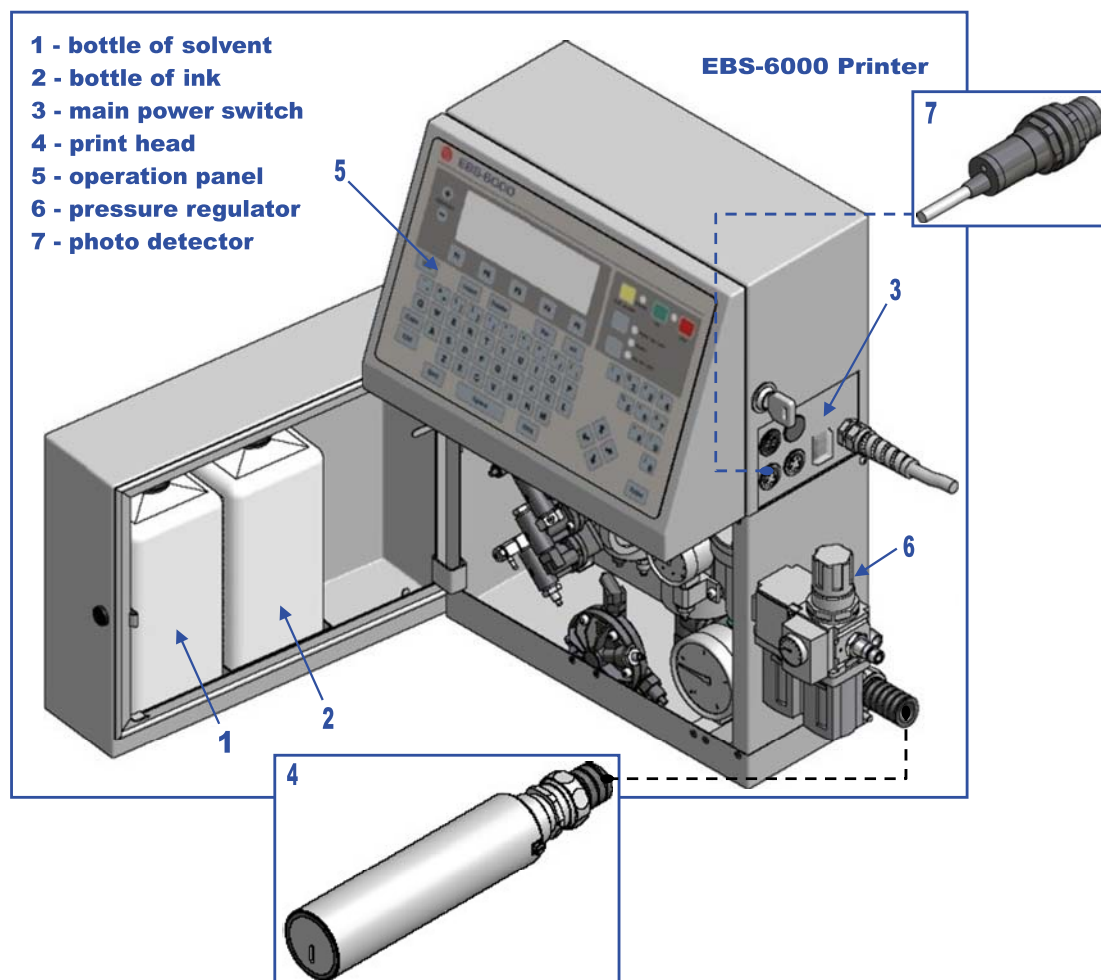

Fig. 2.1
Major components of the **EBS-6000** single-head printer are shown in *Fig. 2.1*.
Various versions of the pressure regulator (see item **6** in *Fig. 2.1*) are available and your regulator may differ from that shown in the figure.
The nominal pressure should be adjusted with a pressure regulator (see item 6 in Fig. 2.1) to ensure the proper operation of the printer.
The main (bi-stable) power switch, which separates electrically two power wires from the mains; it is located on the right-hand side of the unit next to the mains cord (see item 3 in Fig. 2.1). After the main power switch has been turned on, the printer triggers to the watch mode - the red lamp on the operation panel (see item 5 in Fig. 2.1) between the  and  keys comes on.